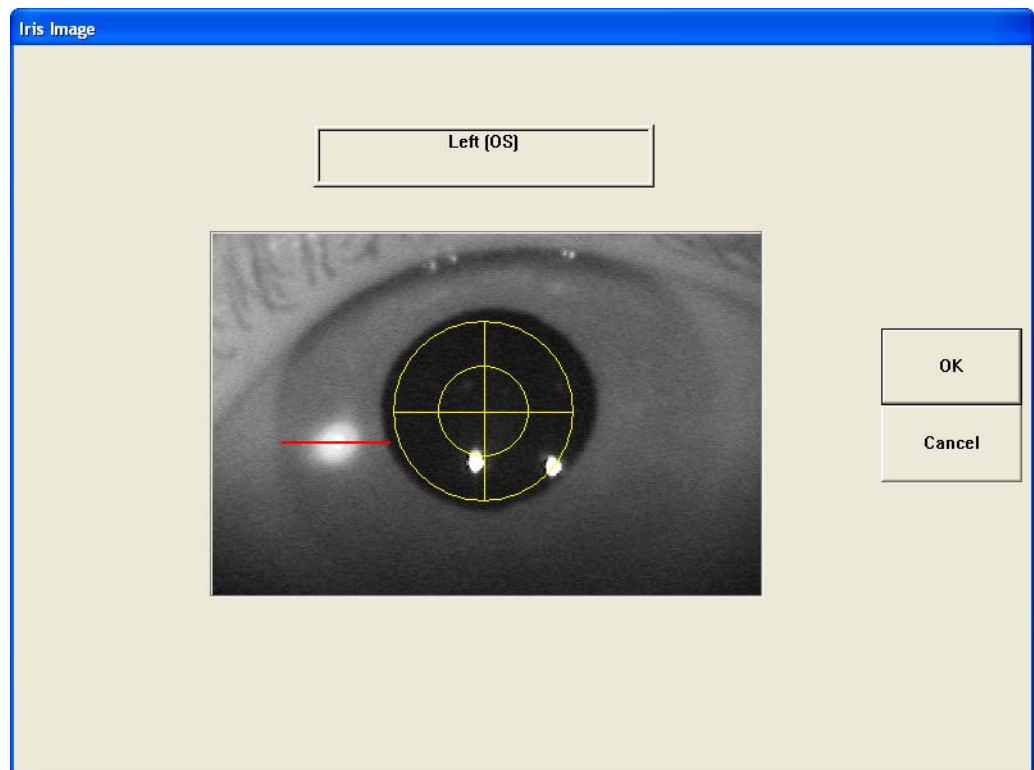

Figure 4-25 OS Iris Image Screen
Select **(OD) Iris Image** or **(OS) Iris Image** to see the right and left iris image, respectively, with alignment overlays (Figure 4-25). The iris image allows you to see if the scan has been properly aligned. When the Q score is low, or when variation is high, you can use the Iris Image function to rule out alignment issues.